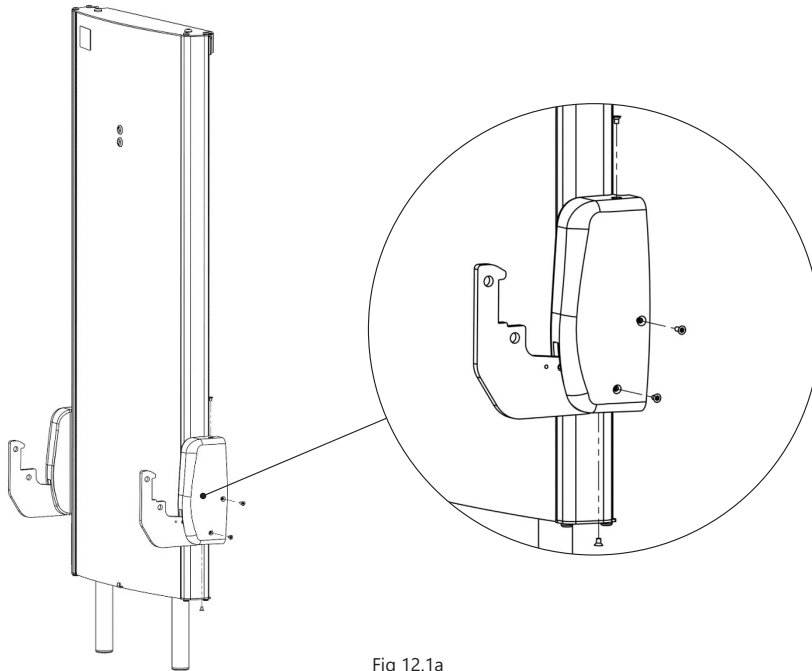

Fig 12.1a
- Remove the four security fixings from each of the gas spring covers, as shown in Fig 12.1a. Take note the upper most horizontal screw is a different size and has a hidden space.